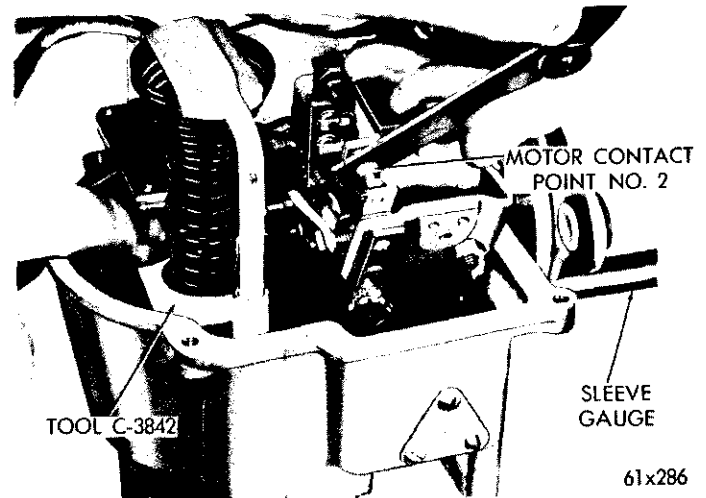

Fig. 13—Point Gap Setting
(3) Remove any material buildup from the contact points.
(4) Install the sleeve gauge over the gauge bolt.
(5) Turn the governor weights until they are parallel with the drive screw.
(6) Spread the weights and place the point gap checking gauge Tool C-3842 between them. Press the gauge down.
(7) Hold the exterior arm against the sleeve gauge and use a feeler gauge to check the clearance between the contact arm point and motor contact point #2 (Fig. 13).
(8) Remove the sleeve gauge and checking gauge.
(9) Turn the ignition switch "ON," do not start engine.
(10) Push the locking arm up against the magnet and push down on the latching cap to latch the magnet and locking arm together.